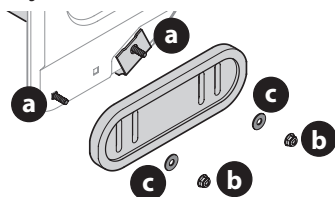

Figure 67
2. Rotate and reassemble new skid shoes with four carriage bolts (a) (two on each side) and hex flange nuts (b) and flat washers (c) (Figure 67).